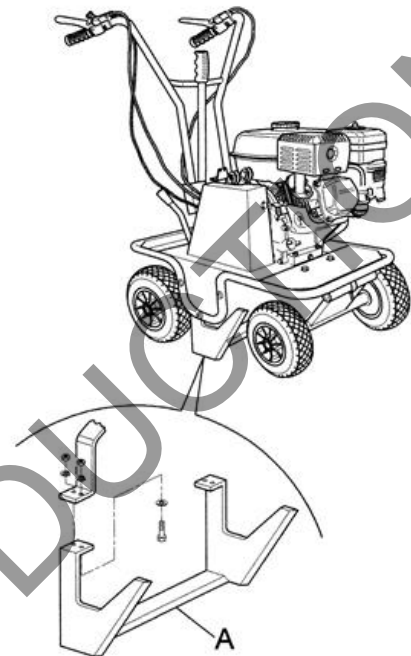

Fig. 10
- During work operations if the blade (Fig. 10, ref. A) strikes stones or stumps stop straightaway and make sure that it has not become bent or broken. A damaged blade must be replaced.